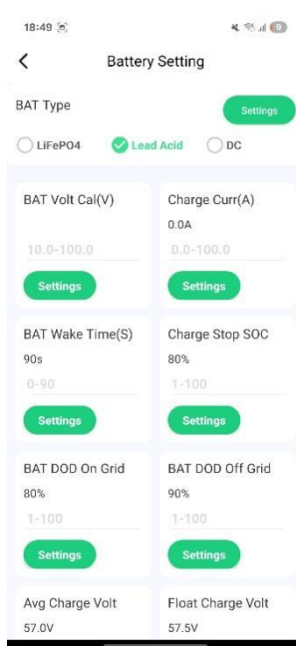

Fig. 4.20.22 Lead Acid Battery
(2) If you select "Lead Acid Battery", you can adjust settings like battery voltage, current, charge voltage limit, discharge voltage limit, request charge current, request discharge current, battery voltage protection, discharge voltage protection, battery capacity, and more, as shown in Fig. 4.20.22.